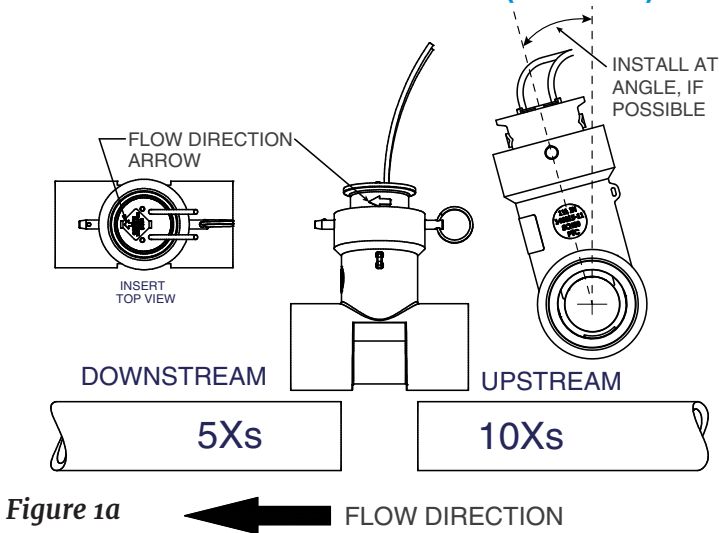

Figure 1a
- Install QS200 at an angle as shown in Figure 1a.
- Flow direction arrows on the QS200 insert must match flow direction of water through the pipe (see Figure 1a).